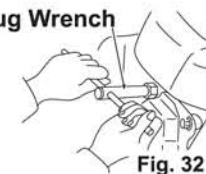
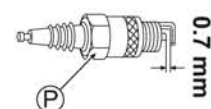

Fig. 32
Fig. 33
2. Remove Ignition plug (P) with the attached plug wrench. (See Fig. 32)
3. Exchange Ignition plug (P) if a great amount of carbon is adhered to it or its insulator is cracked or damaged.
4. Remove the carbon adhered to the electrode, and adjust the electrode clearance to 0.7 mm. (See Fig. 33)
5. Install Ignition plug (P) and Plug cap (Q).